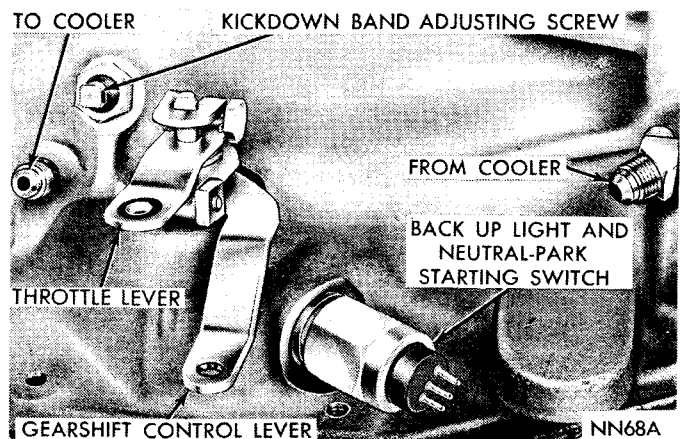

Fig. 5—External Controls and Adjustment
(1) Assemble all linkage parts leaving adjustable rod end free.
(2) Place gearshift selector lever in **PARK** position.
(3) Move shift control lever on transmission all the way to rear (in **PARK** detent) (Fig. 5).
The kickdown band adjusting screw is located on left side of transmission case near the throttle lever shaft (Fig. 5).